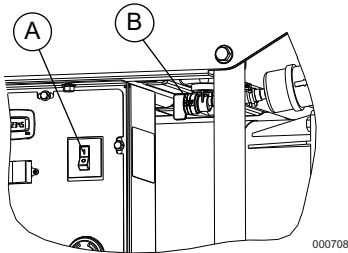
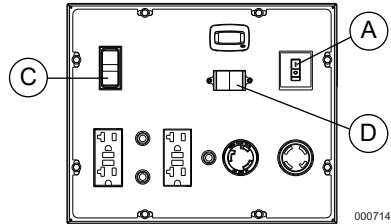

Figure 3-2. Main Breaker Switch and Fuel On/Off Valve
Figure 3-4. Engine Run/Stop Switch
3. See Figure 3-2. Turn main breaker switch Off (A).
4. See Figure 3-2. Turn fuel valve On (B).
6. See Figure 3-4. Press control panel engine Run/Stop switch to Run (C).
- Repeat this procedure until the engine starts. If the engine does not start within five (5) pulls, confirm steps 1-6 and perform step 7 again.
1. See Figure 3-2 or Figure 3-4. Allow engine to run for at least 10 seconds, then turn main breaker On (A).
2. See Figure 3-4. Select voltage rating with voltage selector (D).
1. See Figure 3-2 or Figure 3-4. Turn main breaker switch to Off (A).
4. See Figure 3-2. Turn fuel valve On (A).
7. See Figure 3-4. Press and hold the Engine Start switch (C) until engine starts. Release Engine Start switch if engine does not start within five (5) seconds, review start-up procedure again before attempting start. If problems persist, refer to Troubleshooting.
9. Select voltage rating with Voltage Selector (D).